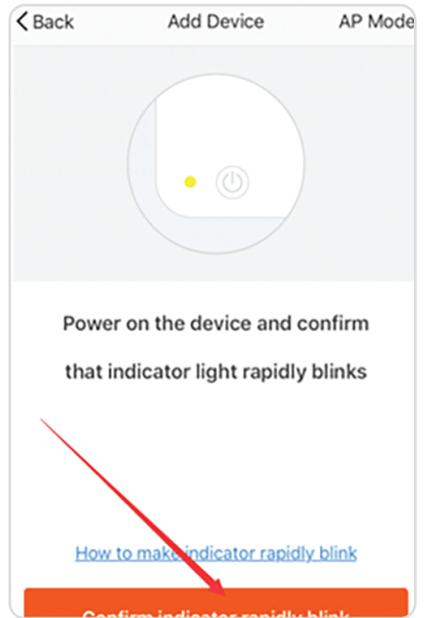

Fig. 3
- B) Press the button „Confirm indicator flashing fast“ when the indicator on the device starts flashing quickly as shown in Fig.3